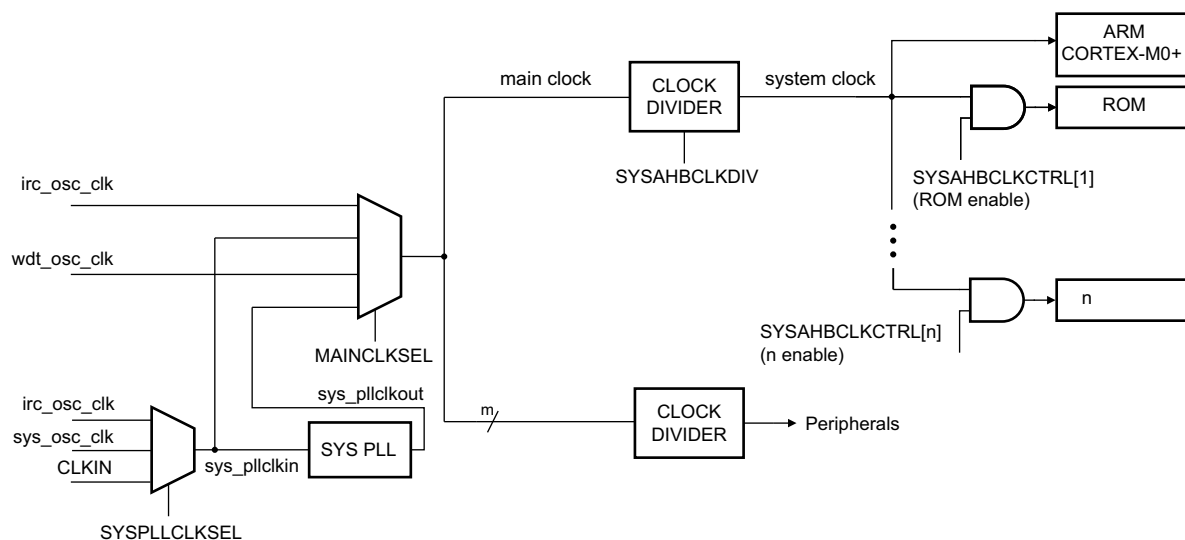

Fig 58. LPC82x clock configuration for power API use
For a simplified clock configuration scheme see Figure 58. For more details see Figure 5.
set\_pll configures a setup in which the system clock does not exceed 30 MHz (see Figure 58). It easily finds a solution when the ratio between the expected system clock and the system PLL input frequency is an integer value, but it can also find solutions in other cases.
**Remark:** Use the set\_power routine with SYSAHBCLKDIV = 1 (System clock divider register, see Table 34 and Figure 58).